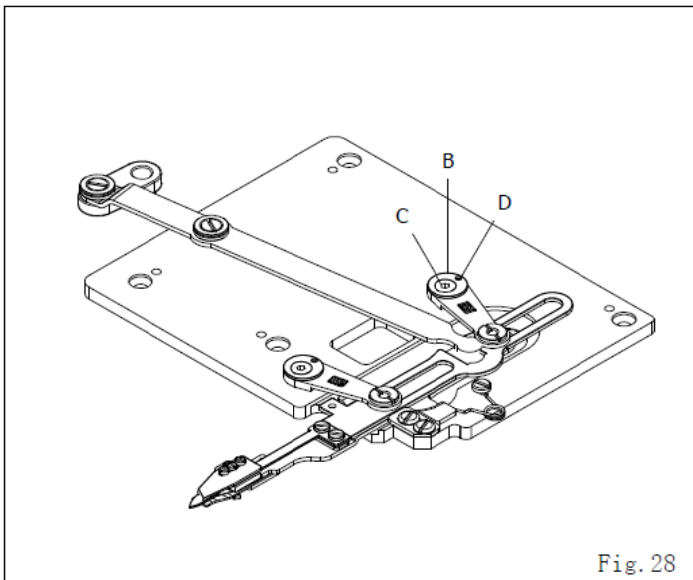

Fig. 28
2. 夹线片(D)之边沿须与活动刀右边刀口内沿切齐, 如(E)可由螺丝(C)调整。压力片(F)前端与固定刀前端之距离约为 1mm, 调整时, 可放松螺丝(G)移动压力片(F)。(图 28)
2. The edge of Clamp Spring (D) align with the inside edge of Moving Knife of right hand side hook (E). Please loosen the screw (C) to adjust the position of Clamp Spring and Fixing Knife. The distance between the top of Clamp Spring Pressure and top of Fixing Knife is about 1mm. Please loosen the screw (G) to adjust the position of Clamp Spring Pressure. (Fig. 28)
调整时可放松摇臂之偏心轮(B)上之螺丝(C), 再转动偏心轮, 使活动刀片移到正确位置。偏心轮上之记号(D)正常时, 大约处于 3 点钟方向位置。(图 28)
Please set up the mark (D) of Eccentric Ring to 3 o'clock position in ordinary. (Fig. 28)